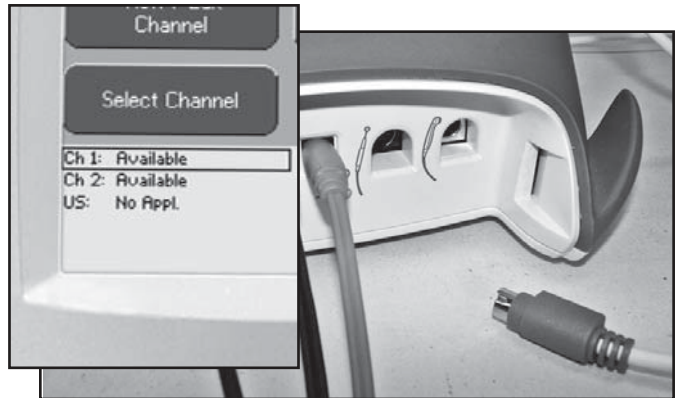

FIGURE 5.18
2. Look at the “Ultrasound” channel icon at the lower Left Hand corner of screen. It should read “No Appl.” **See Figure 5.18.**